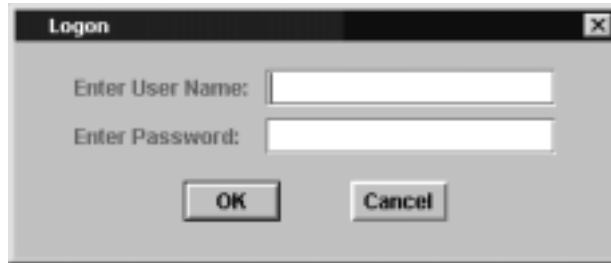

Figure 3-3: Logon to Server
4. Log on to the Server. See Figure 3-3.